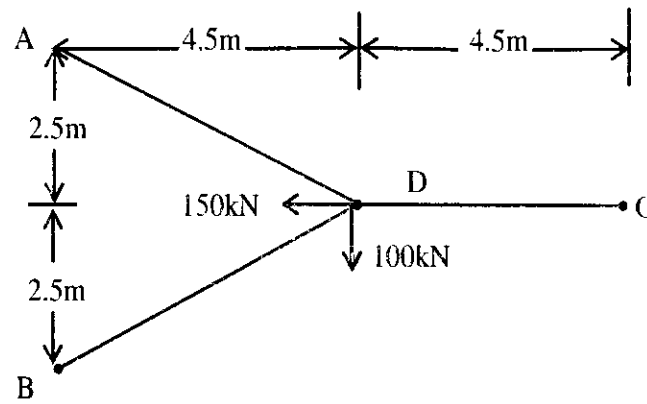

Fig 13
Q.5 Fig 13 shows plan of a Tripod. The feet A, B and C being in the same plane and the open D being 3.75m above the plane. Horizontal loads of 100 kN and 150 kN are applied at D in the directions shown. Find the forces in the members assuming that all joints are pin – joints [16]